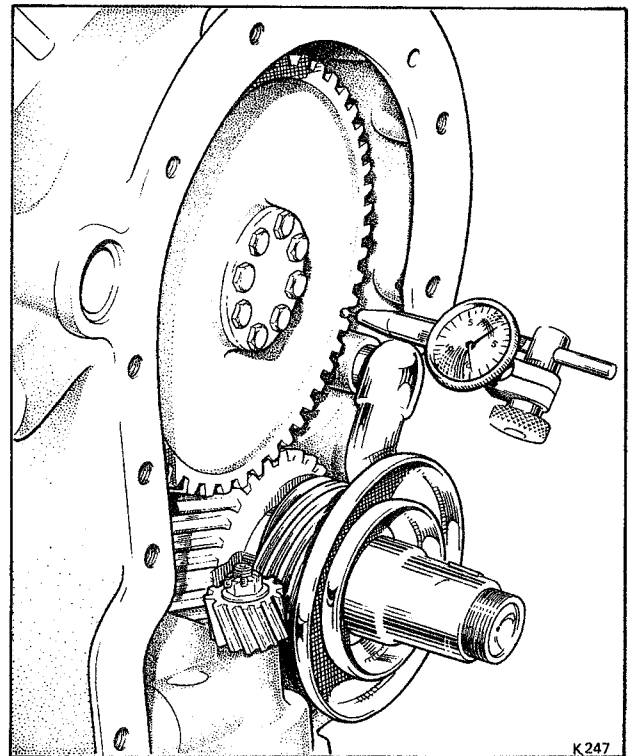

Fig. E35 Checking the timing gear run-out
4. Check the timing gear run-out as follows (see Fig. E35).